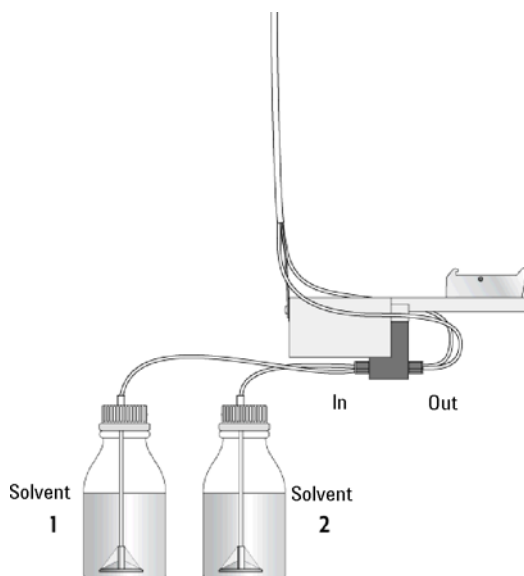

Figure 18 Installing the Solvent Tube Assembly to the Pump Holder
- 3** The Solvent line assembly is not preinstalled at the factory. The correct mounting is shown in Figure 18 on page 69. Select the end of the guide wire with the longer tubing ends and connect the guide wire with the screw M4 x 8 and the corresponding serrated lock washer to the back side of the module. Note the guide groove, which orients the wire.